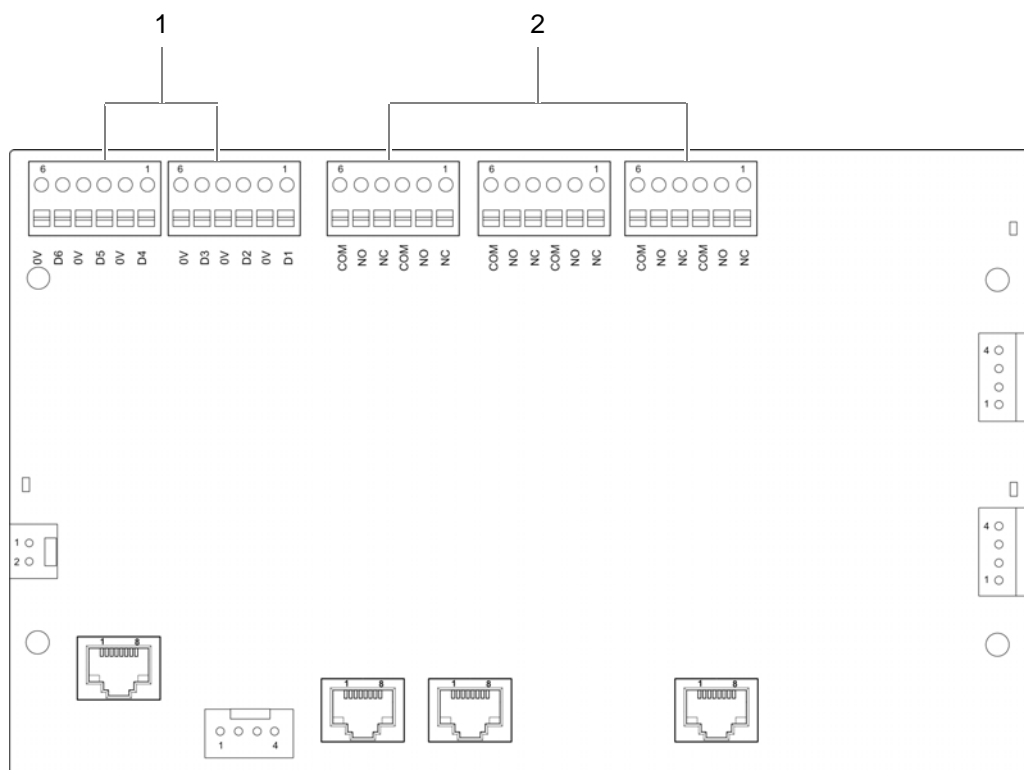

Figure 5.25 Alarm input/output module – alarm inputs/outputs
If the DIB-500 R4.1 is equipped with a V_{AC} or alarm system expansion, it features six digital alarm inputs and six digital alarm outputs that are connected with the alarm input/output module, see Figure 5.25 on page 124.
Figure 5.25 shows the alarm inputs/outputs of the alarm input/output module. The following table describes these indicators in detail.
3. Connect the wires of the external alarms to the corresponding clamps of the alarm input/output module, refer to Figure 5.25 on page 124.